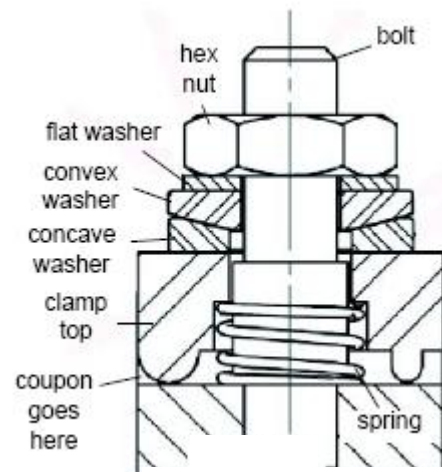

FIG.:6.
- Remove the calibration bar from the bolts. Replace the spring, clamp top, concave washer, convex washer, flat washer, and hex nut onto the bolts (Fig. 6).